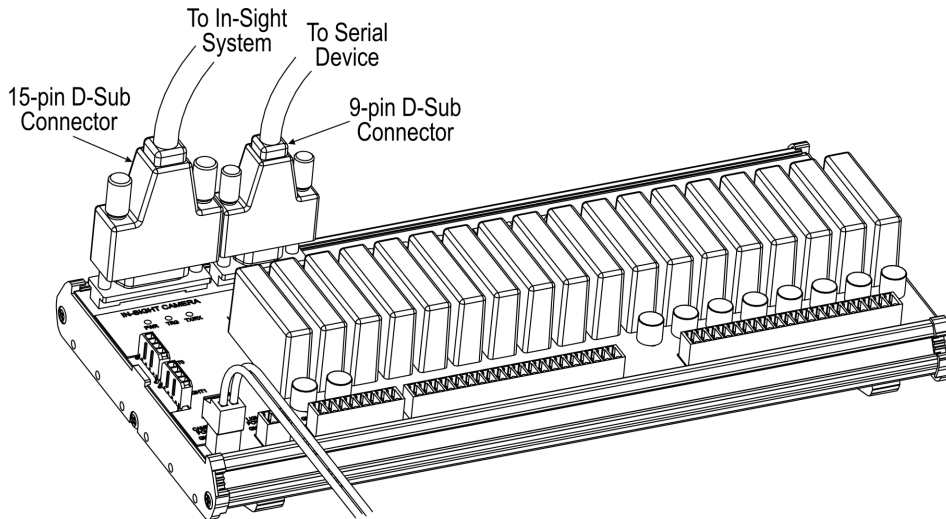

Figure 3-7: Connecting the I/O Cable and Serial Cable
3. Optionally, connect the DB9 male connector of an RS-232 serial cable to the corresponding DB9 female connector on the Expansion Module (Figure 3-7).